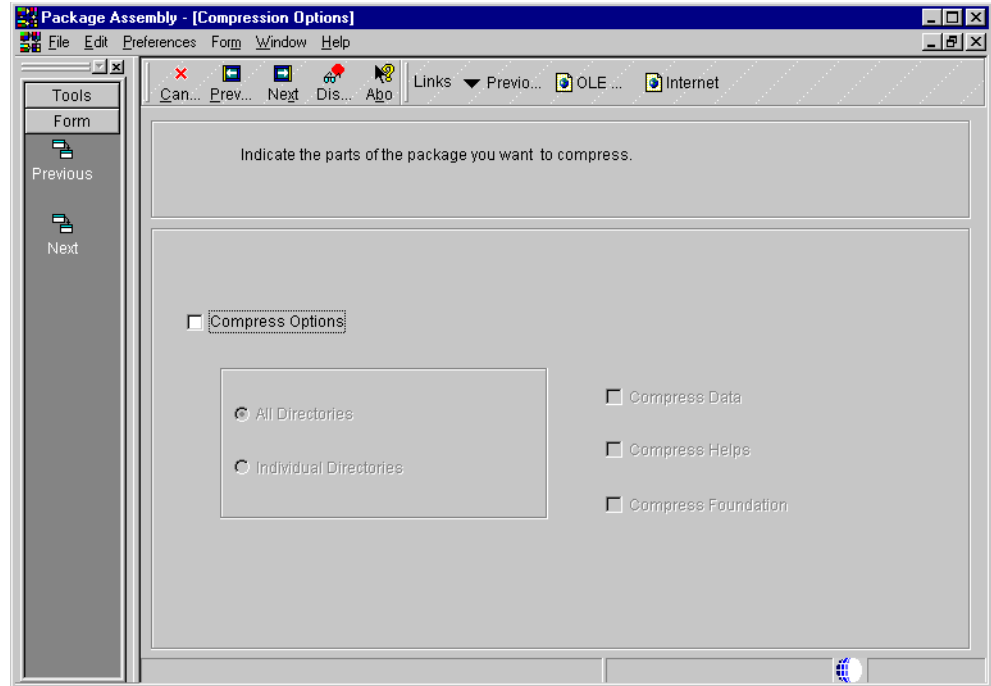

Figure 157. Compression Options form
9. Click **Next**. The Compression Options form appears (Figure 157).